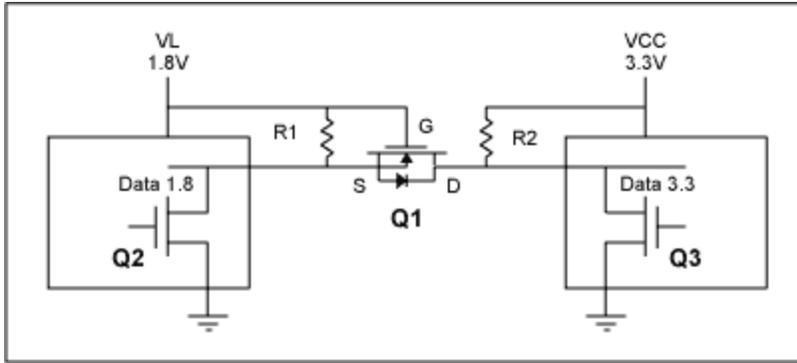

Figure 3. Basic level translator.
**Figure 3** shows a basic level translator with an N-channel MOSFET. If neither Q2 or Q3 pulls the data-line low, VGS of Q1 is 0V and Data 1.8 has a level of 1.8V, Data 3.3 is at 3.3V. If Q2 pulls Data 1.8 low, VGS of Q1 is 1.8V and will turn on Q1, pulling Data 3.3 low. If Q3 pulls Data 3.3 low, the body diode of Q1 will be forward-biased, pulling the source to 0.3V. VGS will be 1.5V and Q1 will turn on, pulling Data 1.8 low. So logic-levels are translated in both directions. We assume here that Q2 has zero on-resistance. For a real application we would have to consider this on-resistance, which is 133 $\Omega$  worst-case for an I2C-compatible output (0.4V at 3mA) or 22 $\Omega$  for the 74LVC125 buffer (0.55V at 24mA). In this case the voltage VGS to turn on Q1 would no longer be 1.8V, but would be lower, depending on R1 and the on-resistance of Q1.